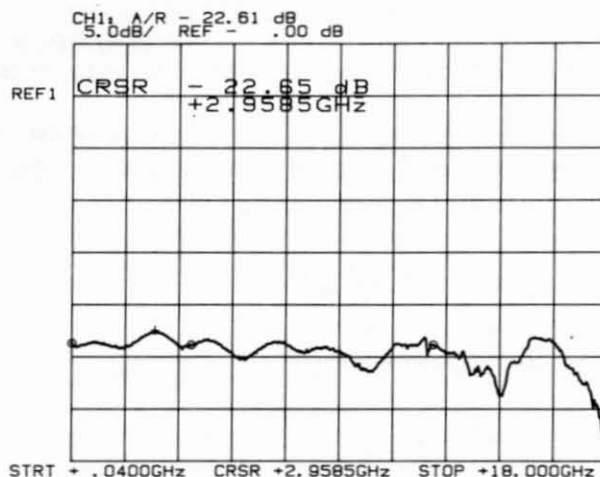

Figure 4-7. Reading Cursor Value
- Using **MAIN MENU** soft keys, press **[CURSER]**. Use the knob to set the cursor to the highest trace value (lowest return loss value) between **M1** and **M2** (.04 to 4 GHz), and read the cursor value from the CRT (see Figure 4-7). Do the same thing between **M2** and **M3** (4 to 12 GHz), and between **M3** and **M4** (12 to 18 GHz). Note these values on the test record card.